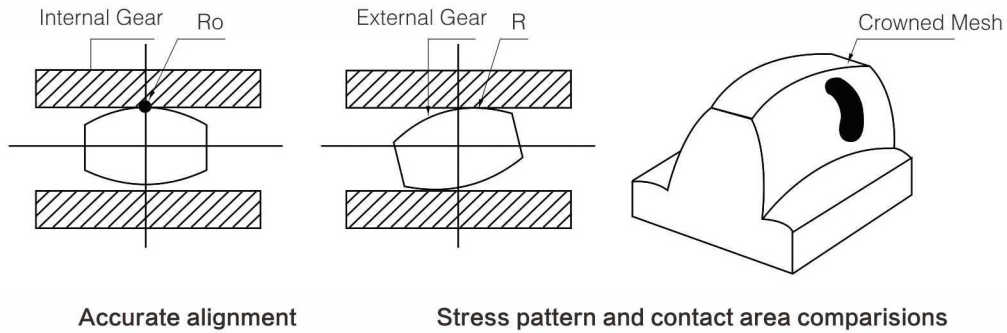

Fig.3
2. When there is no displacement deviation in the working condition, and there is no deviation in the coupling installation, the drum shaped tooth center of the inner ring gear (R_0) Contact with the outer gear sleeve, and when there is eccentricity and deflection angle, contact at a certain distance (R) from the center point of the tooth profile. (see Fig.3)